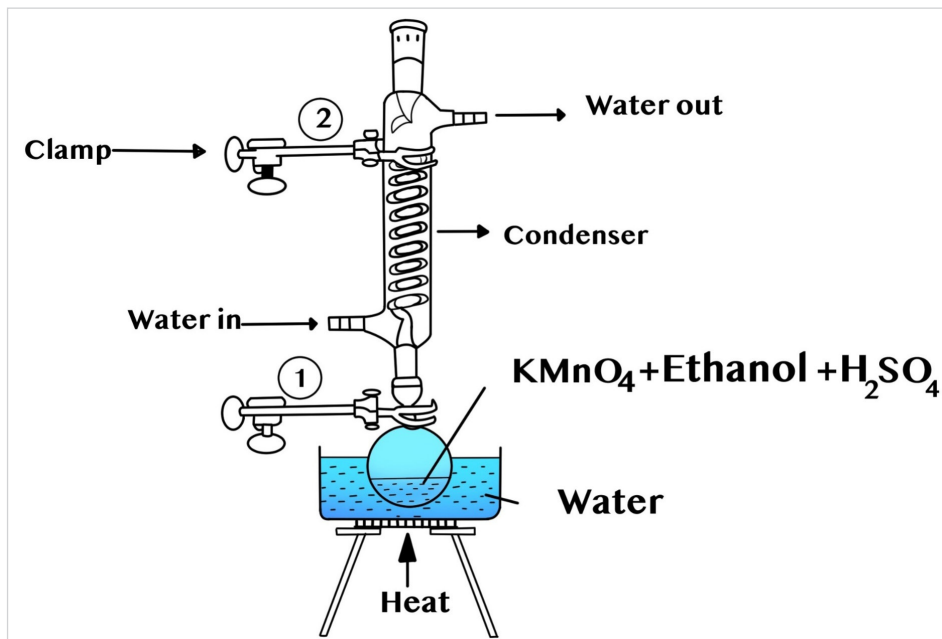

Figure 7.2: Preparation of carboxylic acid
5. Set the apparatus as indicated in the figure 7.2 above.